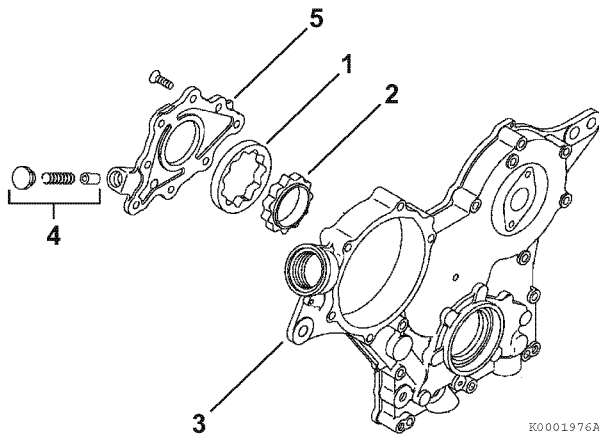

Figure 9-11
1. Lubricate the outer rotor (**Figure 9-11, (1)**), inner rotor (**Figure 9-11, (2)**) and pump bore in the gear case cover (**Figure 9-11, (3)**) with clean engine oil.
4. Reinstall the oil pressure regulator valve (**Figure 9-11, (4)**) into the oil pump cover (**Figure 9-11, (5)**). Apply LOCTITE[®] 242 (red) to the valve plug, following the manufacturer's instructions.
5. Reinstall the oil pump cover (**Figure 9-11, (5)**). Apply LOCTITE 290 (green) or LOCTITE 262 (red) to the oil pump cover screws. Tighten the pump cover screws to 52 - 70 in·lb (5.9 - 7.9 N·m, 0.6 - 7.9 kgf·m).